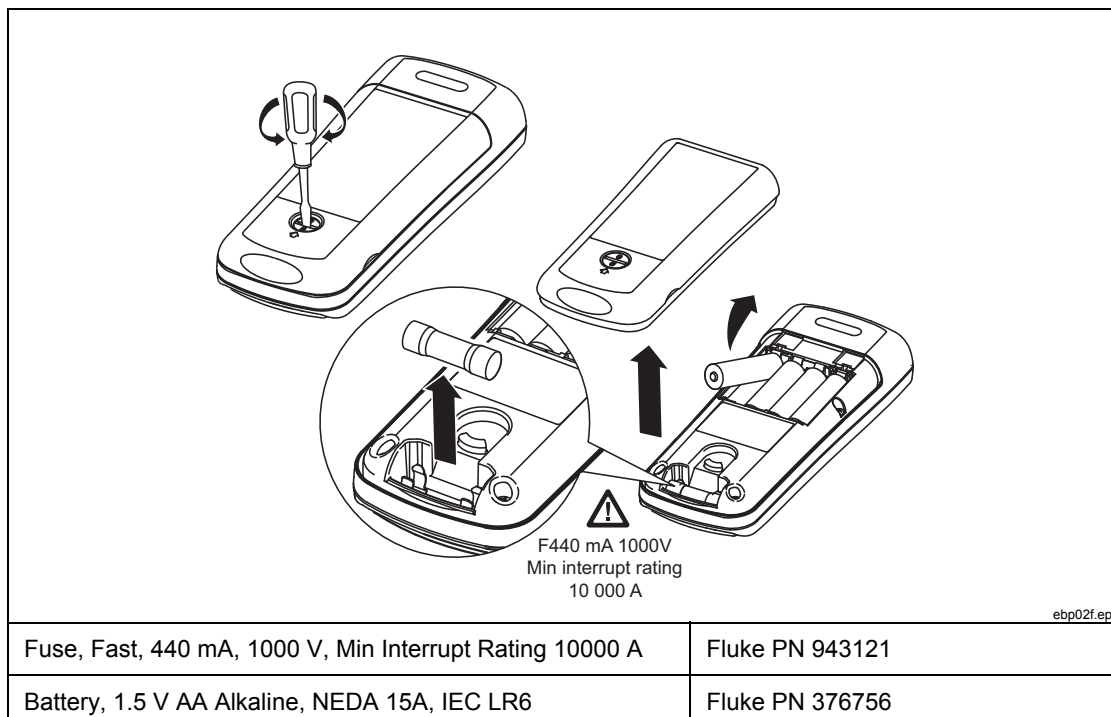

Figure 2. Replacing the Batteries and Fuse
Use the following procedure and Figure 2 to replace the batteries and/or the fuse:
4. Remove and replace the batteries and/or fuse as shown in Figure 2.
4. If necessary, remove and replace the batteries and/or fuse as shown in Figure 2.